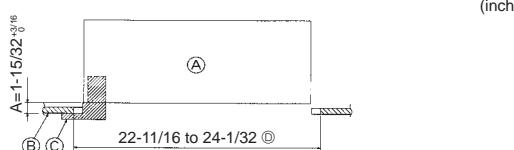

Fig. 6-2
6.2. Preparing to attach the grille (Fig. 6-2)